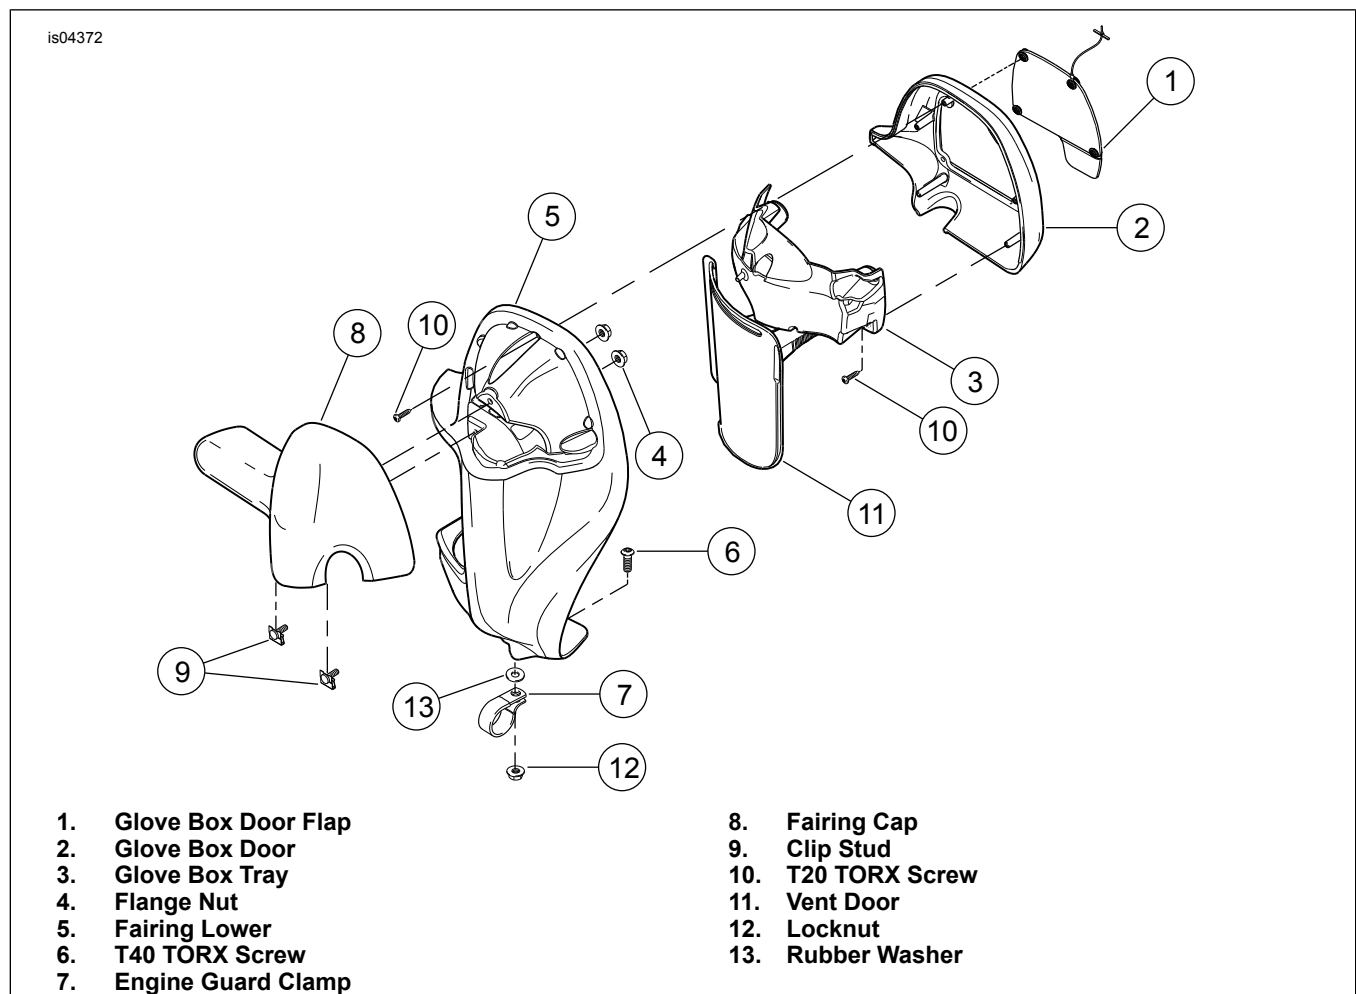
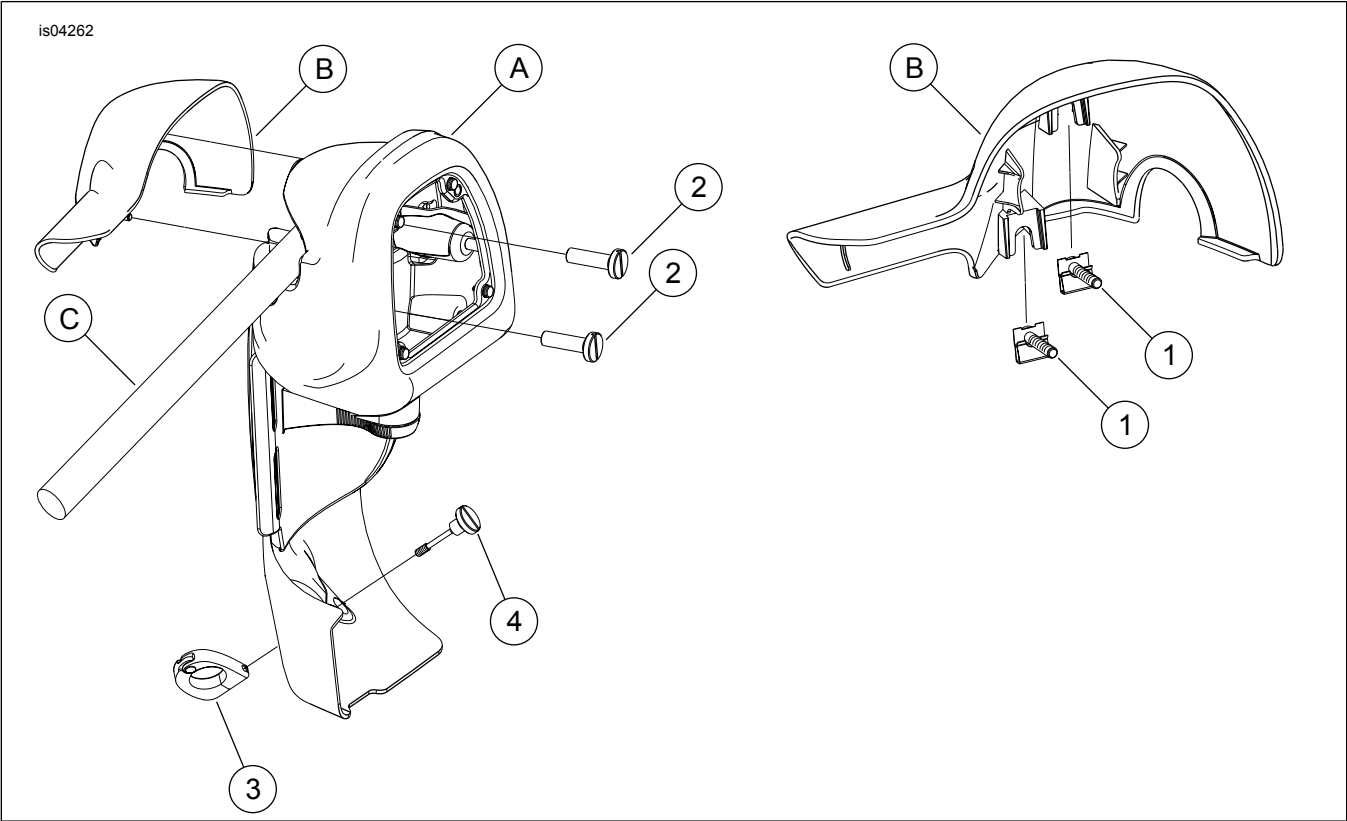

Figure 1. Stock Fairing Lower Assembly
Figure 3. Service Parts: Detachable Fairing Lower Hardware Kit
See Figure 3 and Table 1.
1. See Figure 1. Unfasten snaps to release glove box door flap (1). Release anchor on draw string from hole in glove box door (2). Set door flap aside.
2. Reaching into glove box, remove two flange nuts (4) from clip studs (9) and remove fairing cap (8). If necessary, push ends of studs through holes in glove box tray (3) and fairing cap (8) or damage may result.
3. Hold locknut (12) at bottom of fairing lower (5) and turn inside T40 TORX® screw (6) to free assembly from engine guard clamp (7). Save rubber washer (13). Discard clamp and hardware.
5. Remove three T20 TORX® screws (10) to release glove box door and glove box tray (3) from fairing lower. Do not remove vent door (11) from tray.
5. See Figure 3. Insert thumb screw (4) through top side of fairing lower (A) and rubber washer, as shown in Figure 1. Apply small amount of anti-seize lubricant to threads of thumb screw (4). Thread thumb screw (4) into top half of engine guard clamp (3).
6. Attach fairing lower (A) and engine guard clamp (3) to engine guard, hinge portion of engine guard clamp (3) should face towards the front of the motorcycle. Loosely thread thumb screw (4) into lower portion of engine guard clamp (3).
7. Position fairing lower (A) to upper section of engine guard. Install fairing cap (B) over engine guard and put retainer bolts (1) through mounting holes in fairing lower (A). Loosely thread thumb nuts (2) onto retainer bolts (1) from inside the glove box.
1. See Figure 1. Use a flat blade screwdriver to remove original clip retainer bolts (9) from fairing cap (8) using care not to damage clip mounts.
2. See Figure 3. Press new clip retainer bolts (1) from kit onto clip mounts.
- a. With glove box liner installed in fairing lower (A) carefully mark location of the two fairing cap (B) mounting holes onto the glove box liner.
- b. Use marks to cut or punch holes approximately 9/16 inch round. Holes should be sufficient to allow shank of thumb nuts (2) to pass freely for easy installation of fairing cap (B).